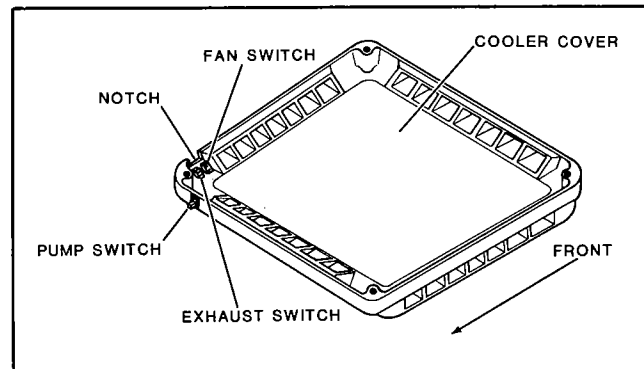

Figure 29. Cooler Cover Notch
6. Cut a notch in the cooler cover, to allow water lines and wires free passage (figure 29).